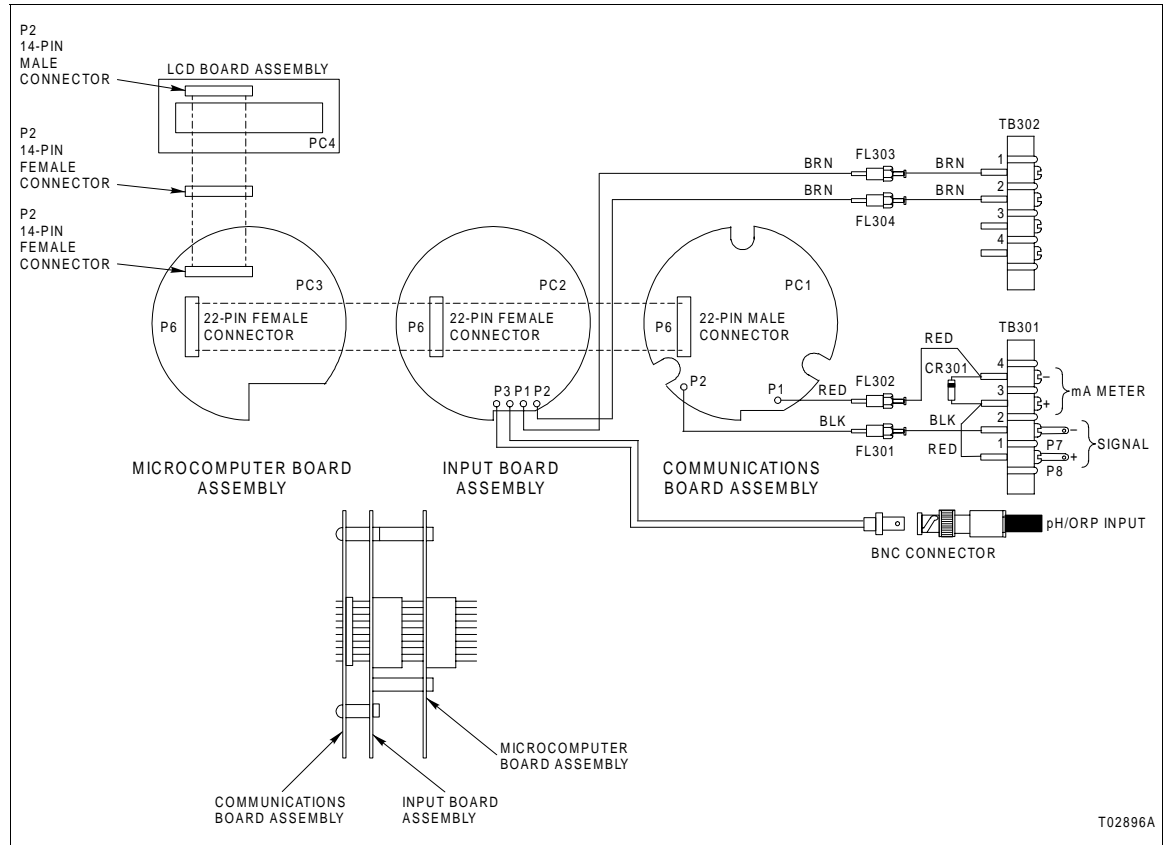

Figure 8-1. Electronics Assembly Replacement
6. Remove the wires from connectors P1 (brown) and P2 (brown) on the input board assembly (Figure 8-1).
7. Remove the wires from P1 (red) and P2 (black) on the communications board assembly (Figure 8-1). Proper polarity must be observed when installing the new electronics assembly.
9. Connect the two brown wires to P1 and P2 on the input board on the new electronics assembly (Figure 8-1).